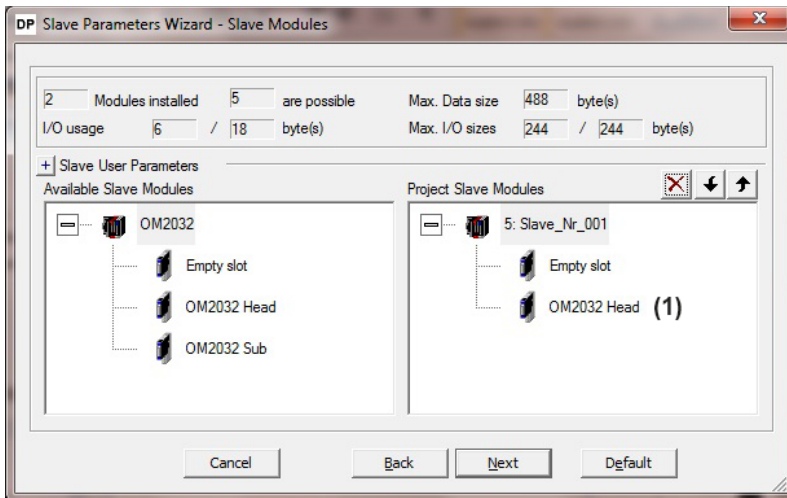

Fig. 6.23: Dialog „Slave Modules“, with one head module
Example (Fig 6.23): OM 2032 configuration (1) with one head module (32 keys).